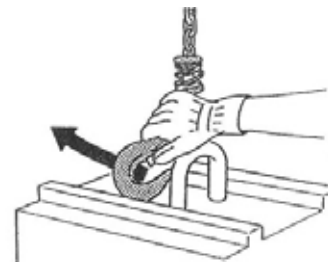

fig.108
12. Release the hoist hook from the sample load and move it away from the loading area. (fig.108)